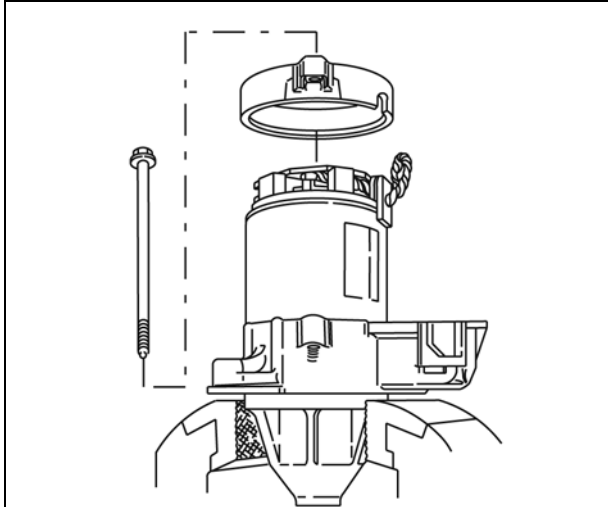

Figure 59
7. Remove starter housing (**A**, Figure 59).